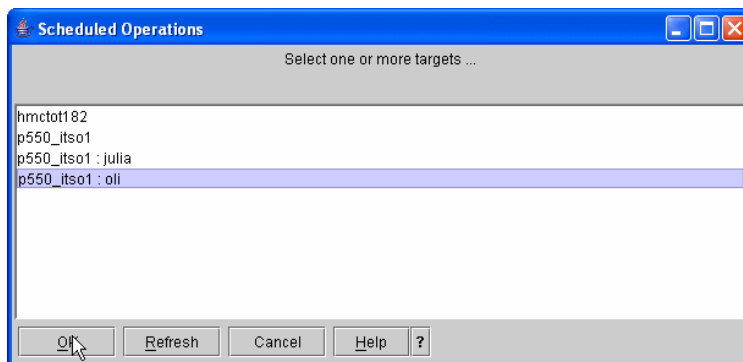

Figure 15 Selecting the target partition
1. On the HMC main configuration panel, select **HMC Management** → **HMC Configuration**. Then, in the right panel select **Schedule operations**. In the new window select the target node for the dynamic LPAR operation as shown in Figure 15.